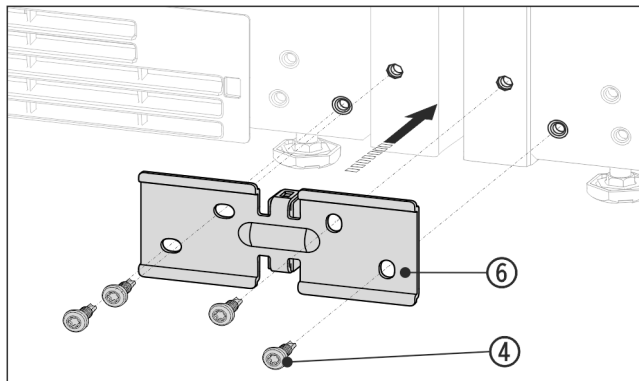

Fig. 14 Example illustration
- ▶ Slide the bracket *Fig. 14 (6)* with the spacer between the appliances and loosely screw on with 4 screws *Fig. 14 (4)*.